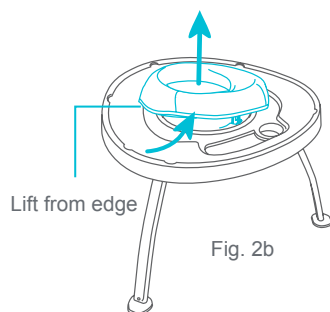

Fig. 2b
- From the top of the Table Top, use the edge of the seat to lift it off the tabletop (Fig. 2b).